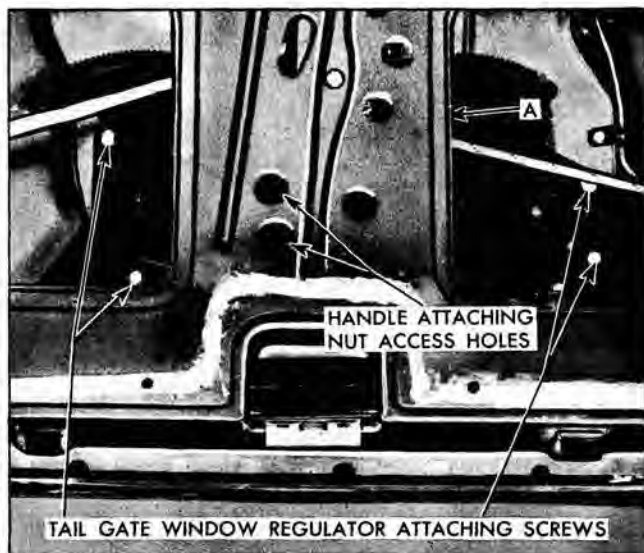

Fig. 5-14 Window Regulator
2. Detach tail gate lock remote control right connecting rod from remote control at "A" (Fig. 5-14).
4. Remove regulator attaching screws through access holes at locations shown in Fig. 5-14. Remove regulator assembly through large access hole.
2. Detach tail gate inner panel water deflector sufficiently to gain access to access holes, shown in Fig. 5-14, for removal of handle attaching nuts.
3. Carefully raise window until holes in window regulator are aligned with inner panel access holes, shown in Fig. 5-14, for removal and installation of outside handle attaching nuts.
CAUTION: Support portion of window assembly extending out of tail gate (Fig. 5-14).
4. Through access holes, shown in Fig. 5-14, remove tail gate handle attaching nuts and remove handle assembly and gasket from tail gate. To assemble tail gate handle assembly, see "Tail Gate Handle Assembly—Disassembly and Assembly".
2. Detach tail gate inner panel water deflector sufficiently to gain access to access holes, shown in Fig. 5-14, for removal of assembly attaching nuts.
3. Carefully operate window upward until holes in window regulator assembly are aligned with inner panel access holes, shown in Fig. 5-14, for removal and installation of attaching nuts.
4. Through access holes, shown in Fig. 5-14, remove lock cylinder, switch and escutcheon assembly attaching nuts. Detach assembly from tail gate outer panel sufficiently to disconnect junction block from switch; then, remove assembly and gasket from tail gate.